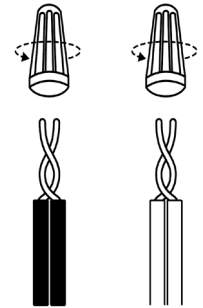

FIGURE 12.
4. Using UL listed wire nuts; connect the field supply wires to the furnace, black-to-black and yellow-to-yellow (240V) or white to white (120V), as shown in Figure 12.